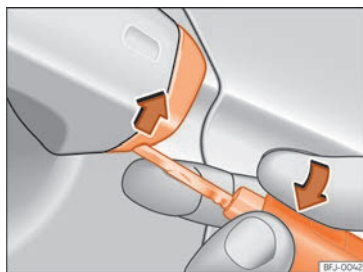

Fig. 55 Driver's door handle: pry the cover open.
- Insert the key shaft into the lower opening in the cover on the driver door handle then remove the cover upwards >>> Fig. 55.